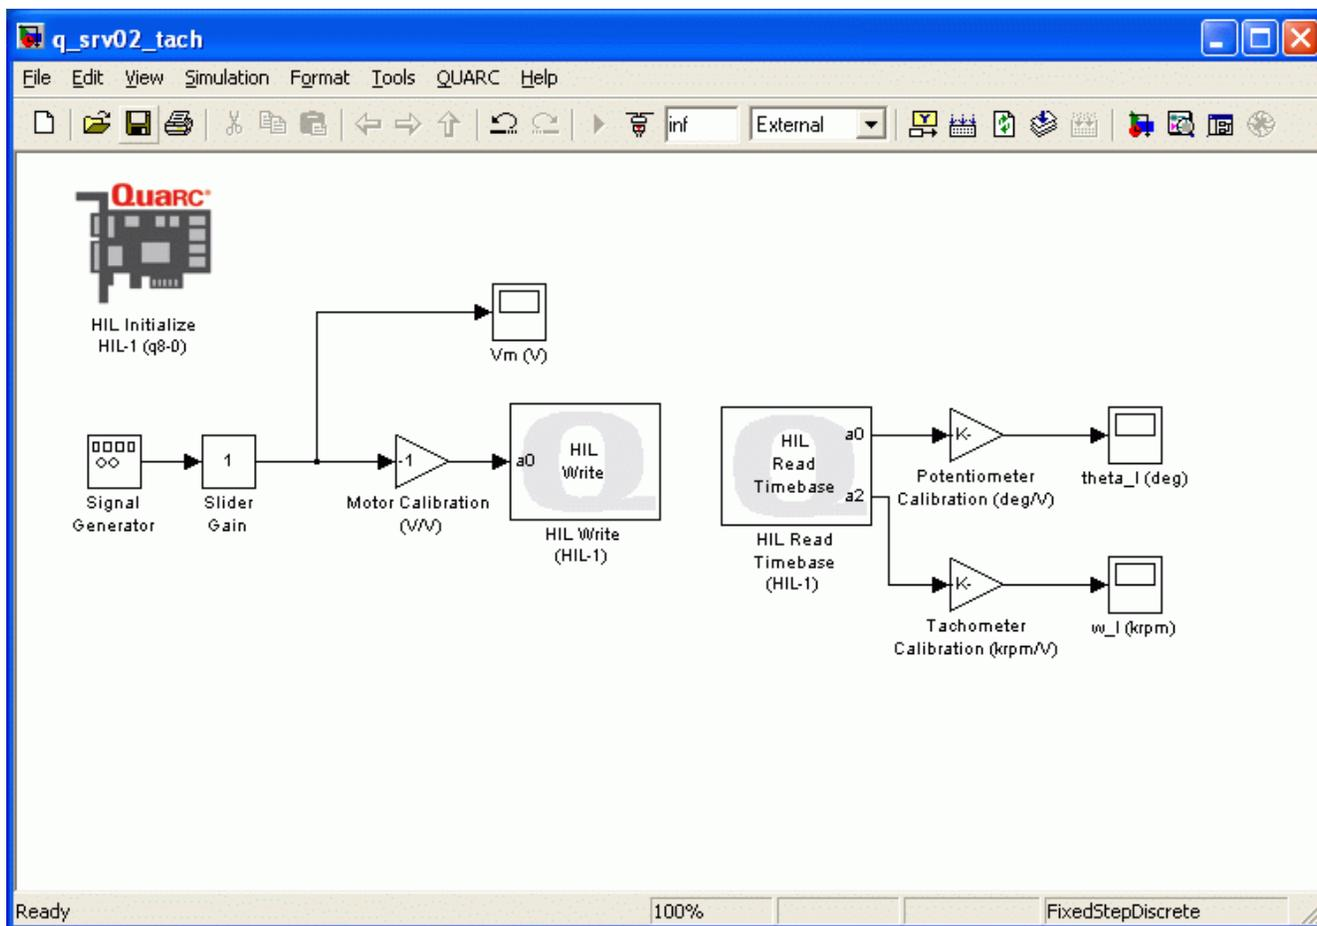

Figure 10: Simulink model used to send voltage to SRV02 and read its potentiometer and tachometer sensors.
4. Connect the Scope and Gain blocks as depicted in Figure 10, above. That is, connect the Gain block to the output of Channel #2 from the HIL Read Timebase block and label it *Tachometer Calibration (rpm/V)*. Then, connect the output of this gain block to the input of the Scope block and label the scope w_1 (rpm). This scope will display the measured speed of the load gear in thousand revolutions per minute.
6. Open the V_m (V) and the w_1 (rpm) scopes.